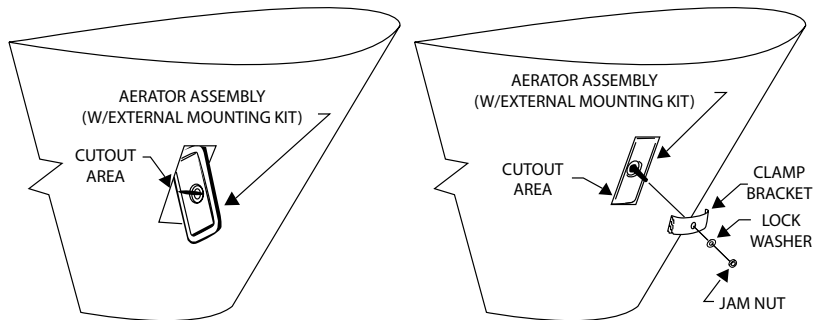

Figure 5: Aerator assembly mounting with external mounting kit accessory
7. Holding the aerator/mounting kit assembly by the air inlet nipple, slip the entire assembly through the cutout in the bin wall and into position. Rotate the clamp to bridge the opening and tighten the jam nut. The aerator assembly will be securely held in place and the cutout in the bin wall will be sealed. Refer to Figure 5.